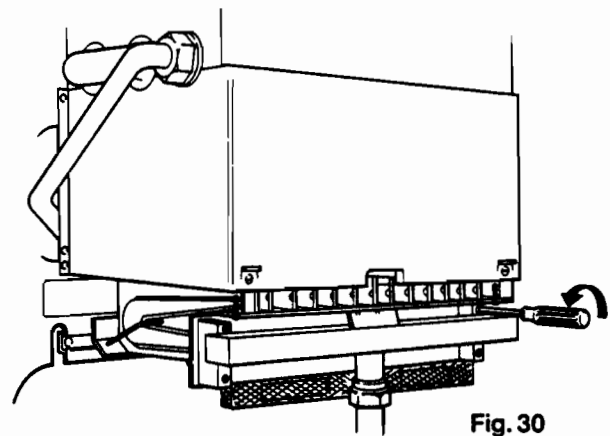

Fig. 30
8.6 To remove burner bar & main injectors (figs 30 & 31)